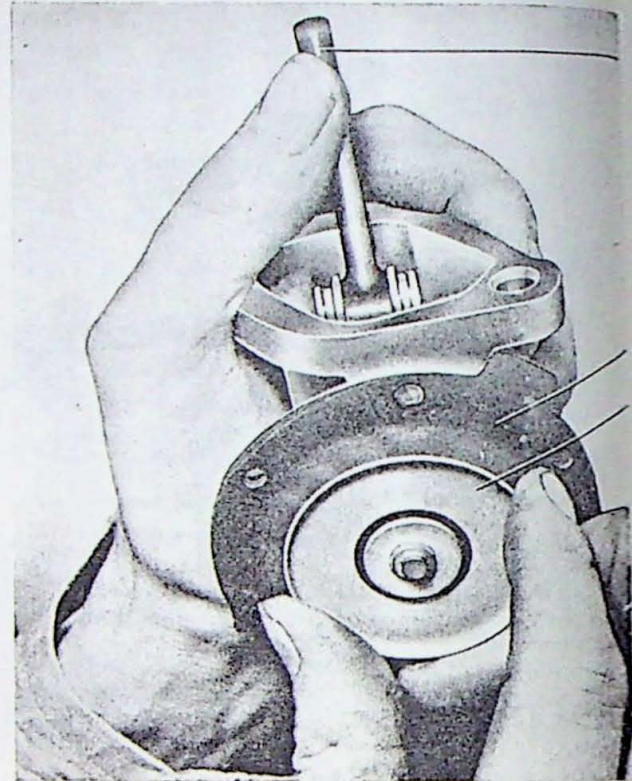

Fig. 1-81. Replacing the diaphragm
2. Hold the pump as shown in Fig. 1-81. Remove the old diaphragm by pushing downwards and turning it a quarter of a turn.